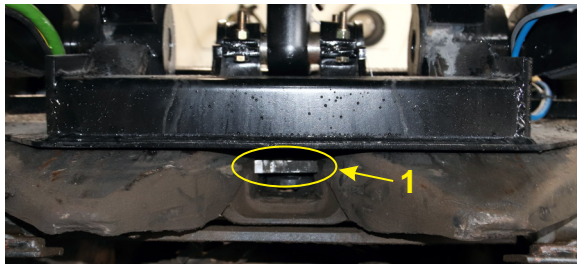

Figure 3-18 – Locked Kingpin
- Confirm that the kingpin has latched with the fifth wheel. Inspect the coupling to make sure the fifth wheel jaws have fully closed around the kingpin (1, Figure 3-18).